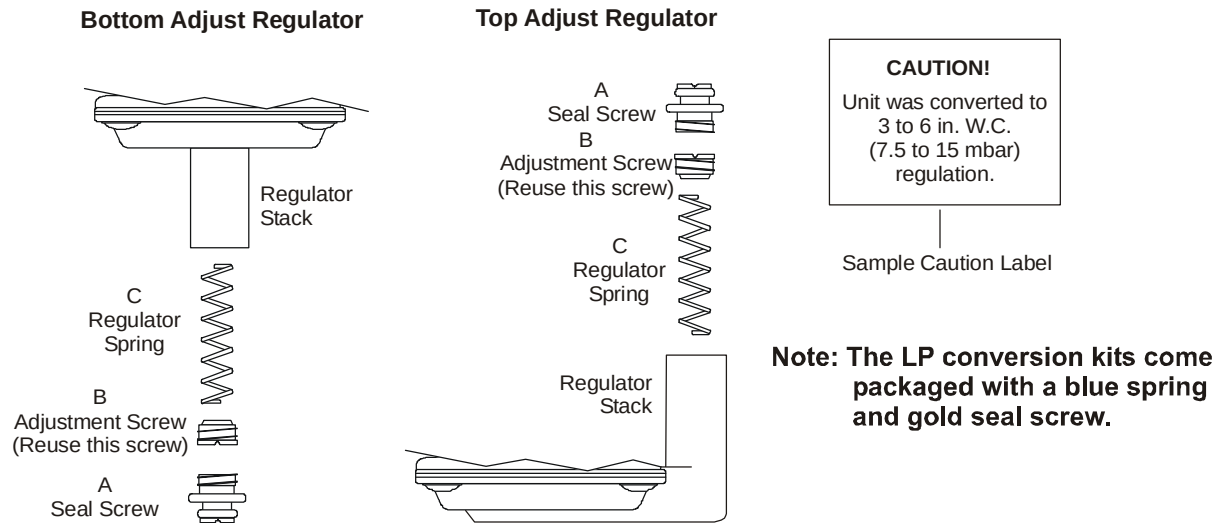

Figure 1: Regulator and Conversion Kit Parts
4. Remove Seal Screw A, Adjustment Screw B, and Regulator Spring C from the regulator stack (Figure 1).